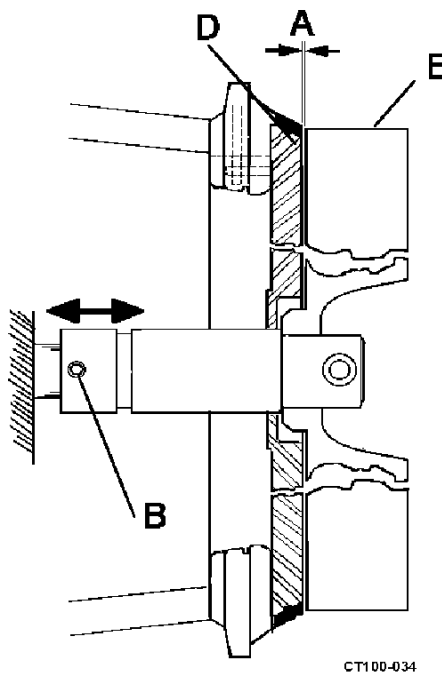

Figure 23 - Setting Backplate/Impeller Clearance
6. Slide the impeller onto the shaft. Hold the impeller tight against the shoulder in the shaft and rotate the shaft one-quarter turn until the impeller pin engages with the impeller. See Figure 23 on page 18.
1. Place a 0.060" ± 0.010" (1.52 mm ± 0.25 mm) feeler gauge between the front face of the backplate and the impeller. (See Figure 23, item A.)
2. Push the stub-shaft/impeller assembly toward the motor until the impeller (Figure 23, item E) rests against the feeler gauge.
3. Tighten the two setscrews on the stub-shaft. (See Figure 23, item B.)
4. With a feeler gauge, check that the clearance between the rear face of the impeller and the front (inside) face of the backplate is 0.060" ± 0.010" (1.52 mm ± 0.25 mm). (See Figure 23, item A.)